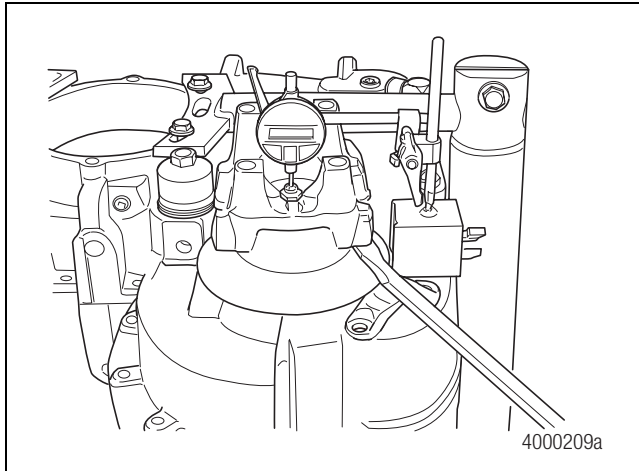

Figure 6.10
2. Install the rear output shaft yoke. Temporarily tighten the yoke nut to 200 lb-ft (271 N•m). ①
4. Use a dial indicator to check output shaft bearing end play. Center the dial indicator over the shaft using a ball bearing for accuracy. Figure 6.10.